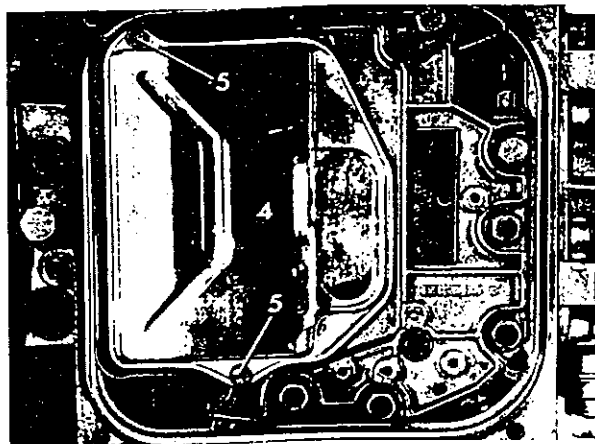

Fig. 3
3 Remove oil filter (4) **Fig. 3**